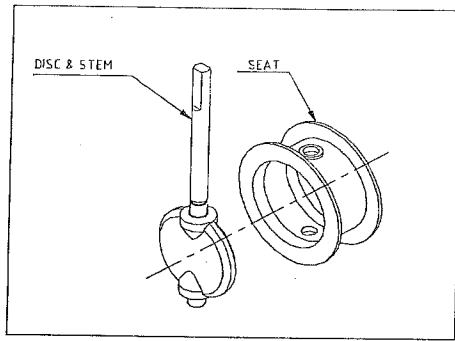

Fig 5.1
8.3.1.6 Take out seats from oven, Apply grease (OK's PKS 1110) in to the stem bore& disc area gently Insert the longer end of stem into the seat. Squeeze seat to an oval shape until short end of the shaft can be inserted into the seat. Bring disc to closed position, refer fig 5.1.